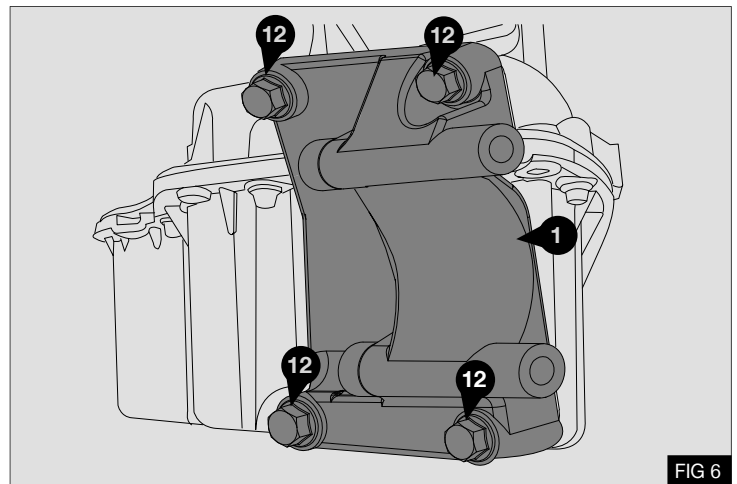

FIG 6
1. Install the mount bracket (1) to the engine using the supplied M8 x 60 bolts (12) - Fig 6
2. Torque bolts (12) to 25 Nm / 18.5 lb.ft using a calibrated torque wrench - Fig 6